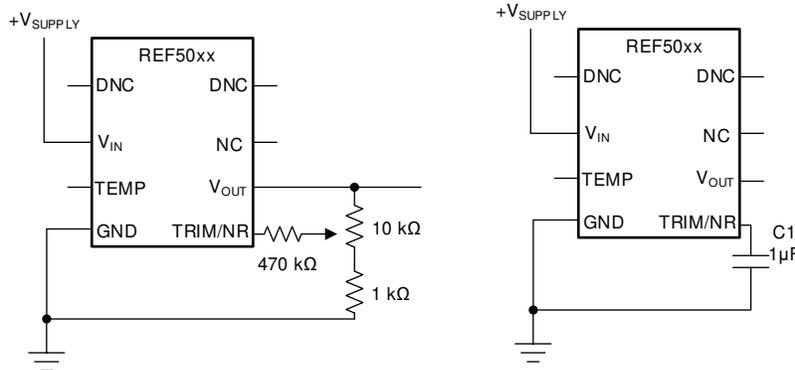

Figure 2. VOUT Adjustment (Left) and Noise Reduction (Right) Using TRIM/NR Pin
To generate a positive voltage output on the DAC8801, a negative voltage reference is needed for the data converter. Generally, the low-noise performance on the data conversion signal path is required on medical image application. For applications that require a negative and positive voltage, the data sheet specifies the typical 0.1-Hz to 10-Hz voltage noise for each member of the REF50xx series. Since there is a focus on noise immunity, some REF50xx series reference have a TRIM/NOISE REDUCTION (NR) pin to enhance performance. As shown in Figure 2, the TRIM/NR pin can adjust the output voltage by up to ± 15 mV and create a low-pass filter. As shown in Figure 2, this process uses a capacitor to decrease the overall noise measured on VOUT. Note that increasing the capacitor size continues to improve noise performance but increases start-up time. When analyzing noise, inject an external disturbance signal accordingly.